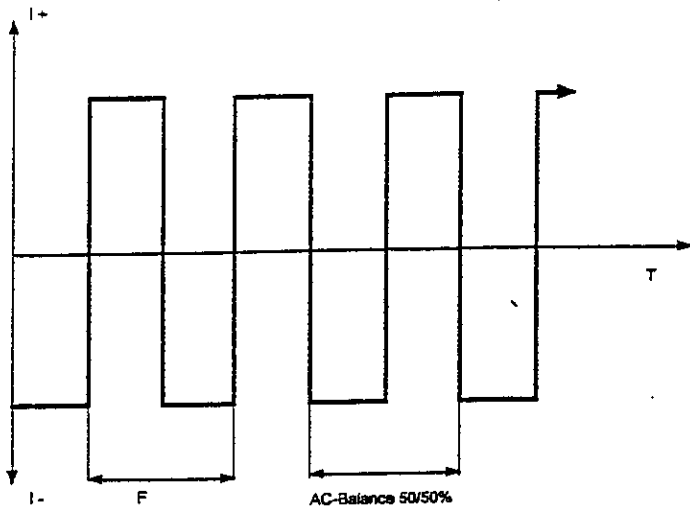

Figure 5: Square Wave
- true square wave (s. figure 5) or